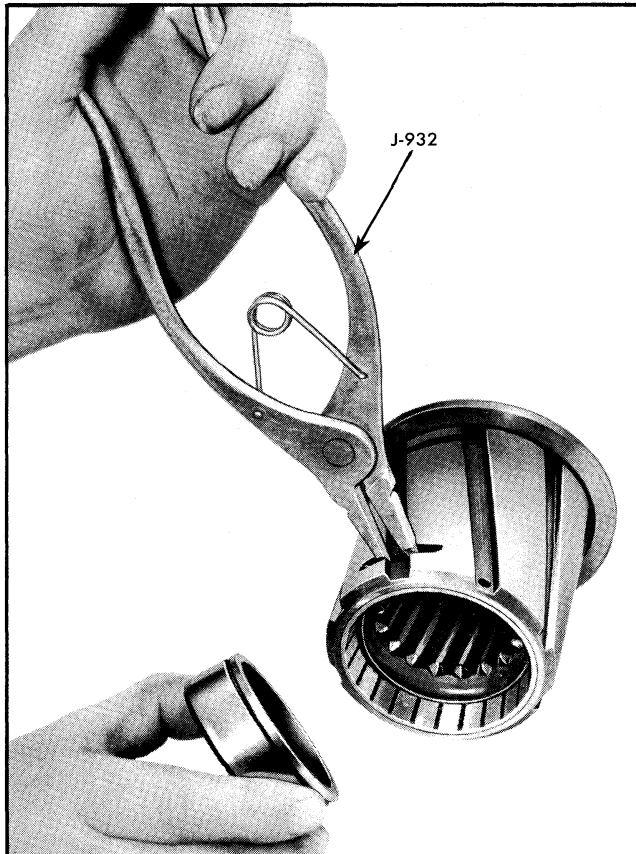

Fig. 7-25 Removing or Installing Synchronizer Ring
2. Using tool J-932, expand ring retainer in the counterbore in clutch sleeve (Fig. 7-25) and withdraw synchronizer ring.
3. Insert tool J-932 through slot in clutch sleeve (Fig. 7-25), and expand retainer in counterbore. Install synchronizer ring in clutch sleeve.